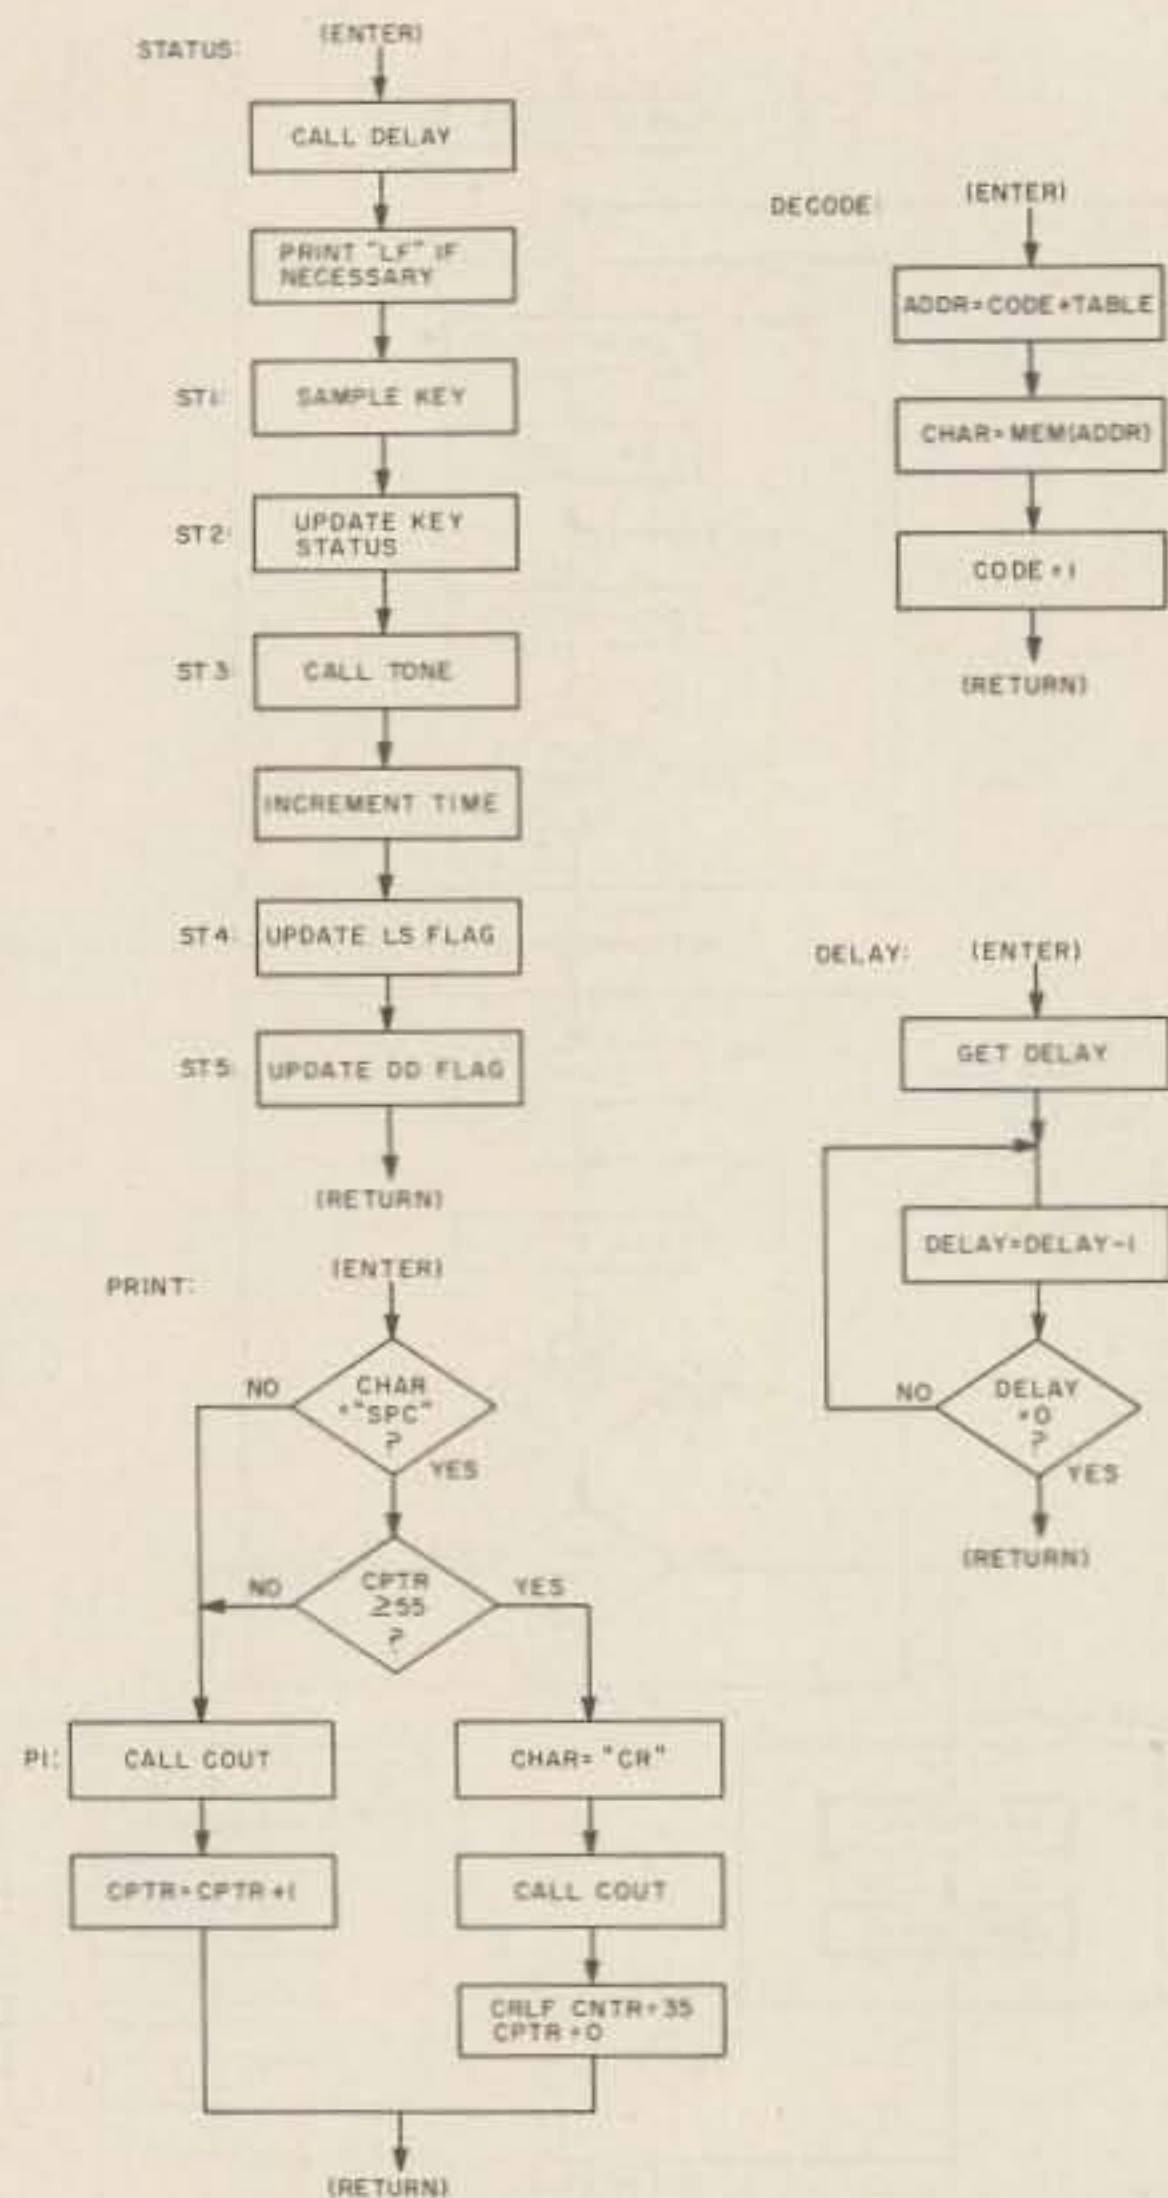

Fig. 2. Main subroutines of program.
Looking at the program subroutines presented in Fig. 2 will illustrate further details of the software. Four internal subroutines are called by the main program routines. These are (1) Status, (2) Print, (3) Decode, and (4) Delay. The Delay subroutine times out after 1 ms has elapsed. Obviously, this function will require different initialization, depending on the microcomputer used. The Decode subroutine performs the actual conversion from the dots and dashes, stored as a unique digital pattern, to the ASCII character representation.